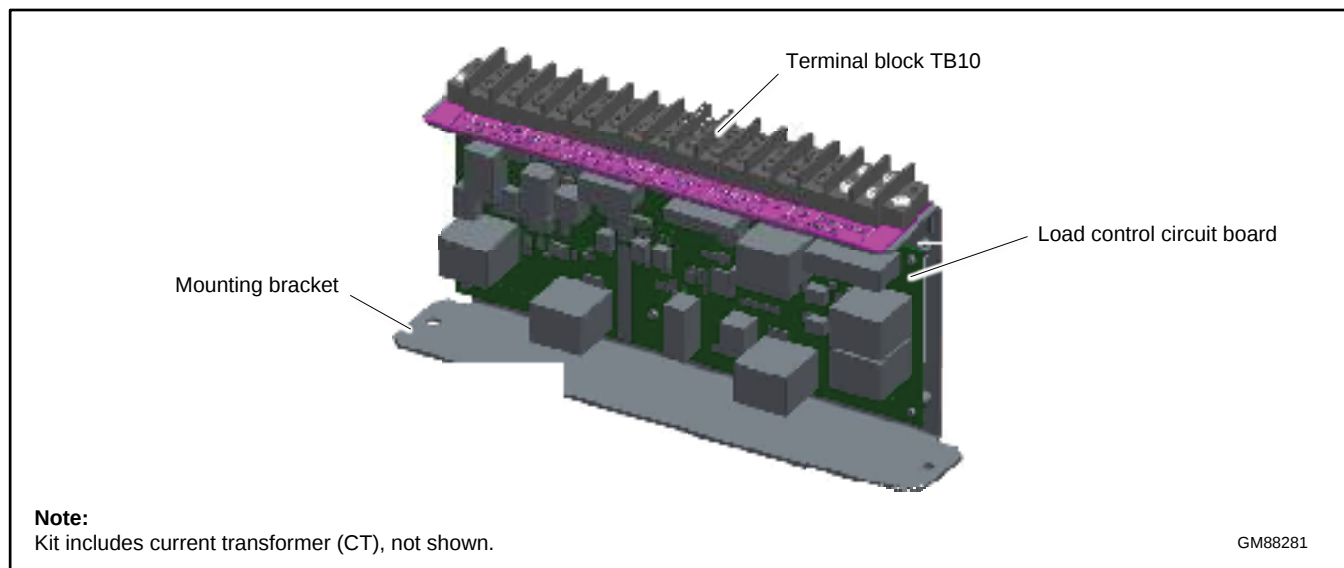

Figure 44 Load Shed Assembly GM88281-1 (mounts inside the transfer switch enclosure)
- The optional Load Shed Kit mounts inside a Model RDT or RXT transfer switch. Figure 44 shows the load shed assembly.